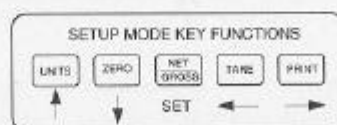

Figure 6-1: Setup Menu Key Assignments
3. Use the four directional keys (shown in Figure 6-1 below) to adjust the displayed value to the actual test weight value. Increase the flashing digit by pressing the UNITS key. Decrease the flashing digit by pressing the ZERO key. Pressing the PRINT key or the TARE key will change the position of the flashing digit.
2. The display will momentarily show "CAL 0", followed by a flashing zero. Use the four directional keys (shown in Figure 6-1) to adjust the displayed value to the zero calibration value.
2. The display will momentarily show 'CAL 1', followed by a flashing zero. Use the four directional keys (shown in Figure 6-1) to adjust the displayed value to the span calibration value.